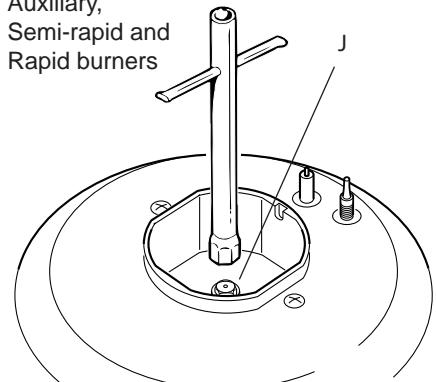

Fig. 10.10
- Using a wrench, substitute the nozzle injectors "J" (figs. 10.10, 10.11) with those most suitable for the kind of gas for which it is to be used.